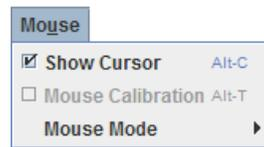
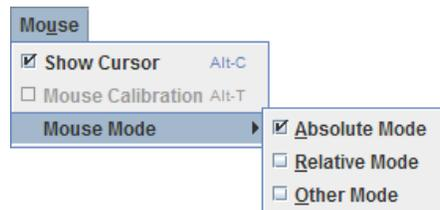

Figure 41: Remote Console Mouse Menu on EPSP Platforms Based on Intel® Xeon® Processor E5 4600/2600/2400/1600/1400 Product Families
Figure 42: Remote Console Mouse Menu - Mode selection on EPSP Platforms Based on Intel® Xeon® Processor E5 4600/2600/2400/1600/1400 Product Families
- **Mouse Mode.** This option is only available on EPSP Platforms Based on Intel® Xeon® Processor E5-4600/2600/2400/1600/1400 Product Families. See Figure 41. This allows you to select the mouse mode being used. You can select Absolute, Relative, or Other as shown in Figure 42. For a description of these modes, see section 7.3.9. Note that the functionality of this option is the same as changing then saving the mode on the Mouse Mode page. Any selections that you make will be saved for the next time when the remote console window is opened.